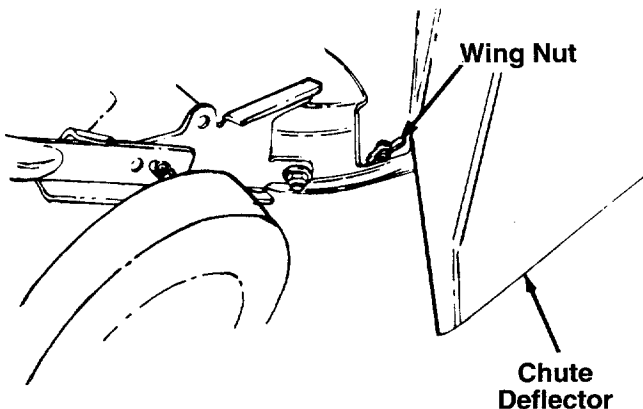

FIGURE 9.
2. Secure the front of the chute deflector to the bolt on the side of the deck with one wing nut. See figure 9. Secure the back of the chute deflector in the same manner. See figure 9.